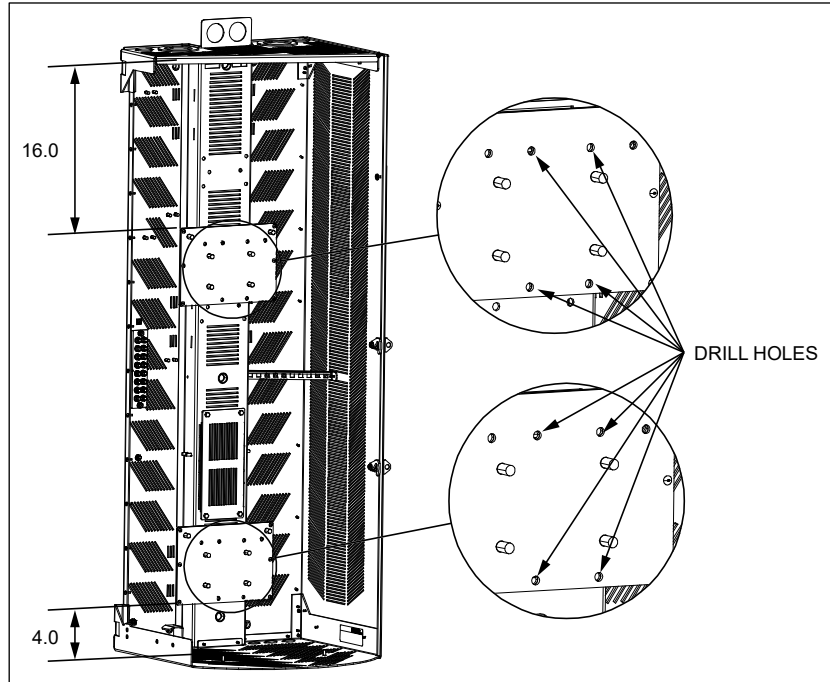

Figure 3
1. Hold the support plates against the central spine as shown in Figure 3.